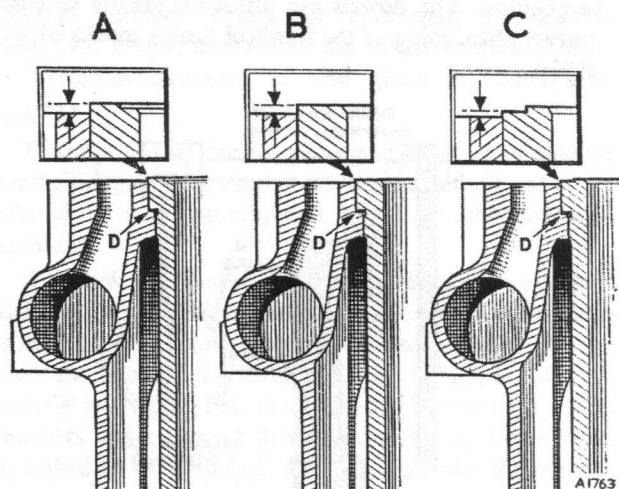

Fig. A.38
The new liner, illustrated at (C) in Fig. A.38, is interchangeable with earlier types, preferably in sets, although single replacements may be fitted, provided the latest-type gasket is also fitted.
Fitting instructions for the modified liner remain as detailed in Section A.12, but care must be taken when checking the standing height that the measurements are taken at the points indicated by the arrows in Fig. A.38.